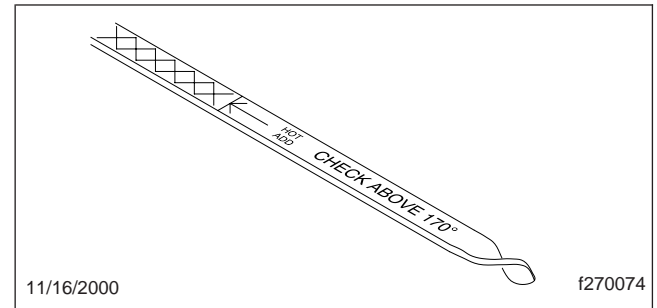

Fig. 2, Transmission Dipstick
3. With the engine running, wipe the dipstick clean and check the fluid level. Any level within the COLD RUN (lower) band is satisfactory for operating the vehicle. See Fig. 2. If the level is not
2. Park the vehicle. Shift to Neutral (N) and apply the parking brake. Let the engine run at idle.
3. Wipe the dipstick clean and check the fluid level. A safe operating level is any level within the HOT RUN (upper) band on the dipstick. See Fig. 2.